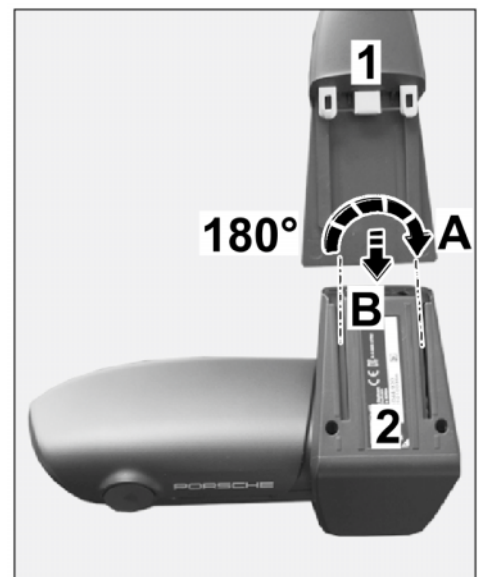

Figure 7
- 2.1.1 Install retainer plate with wire harness on the base of the front camera until the locking mechanism engages (⇒ *Figure 7*).